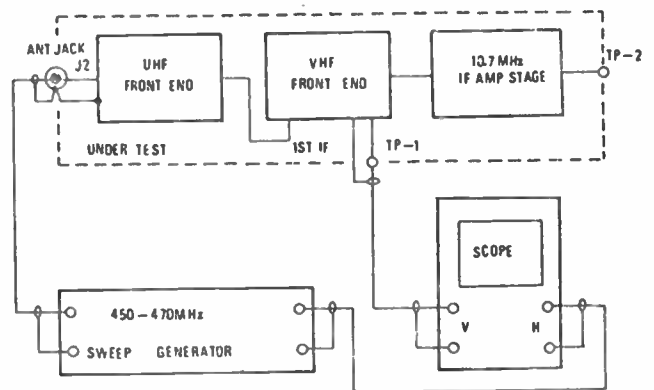

FIGURE 9. UHF 1ST IF ALIGNMENT
Step 1: Connect the instruments as shown in Figure 9.